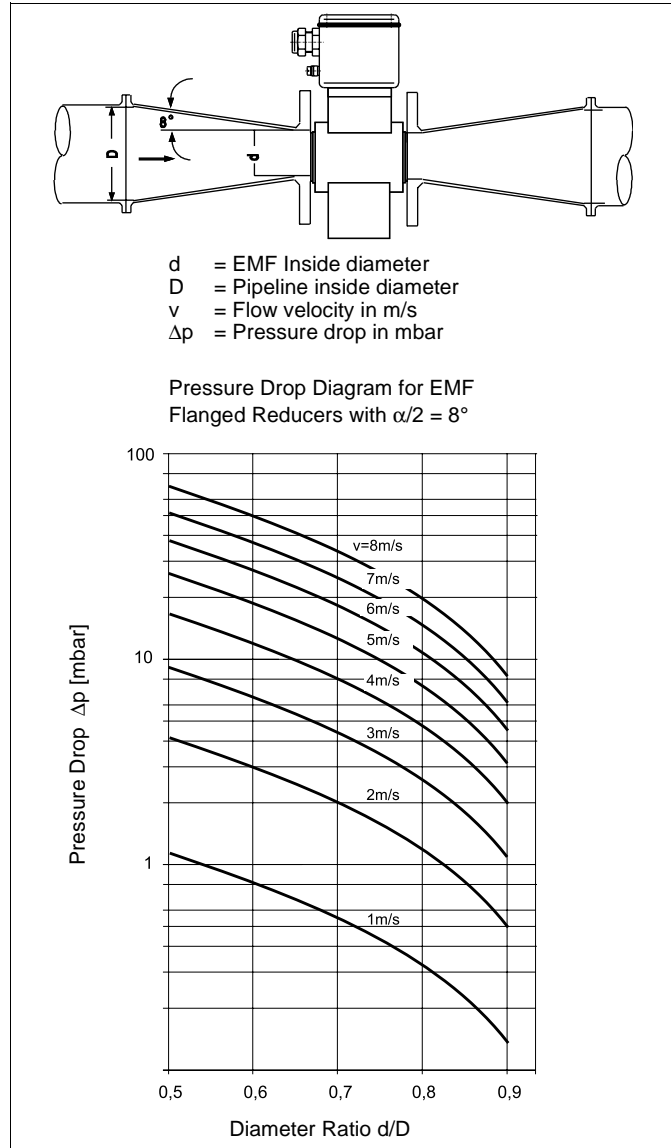

Fig. 15 Pressure Drop Nomograph
The flowmeter can readily be installed in larger size pipelines through utilization of flanged transition sections (e.g. Flanged Reducers per DIN 28545). The pressure drop resulting from the reduction can be determined from Diagram Fig. 15 using the following procedure:
3. The pressure drop can be read on the -Y- axis at the intersection of the flow velocity value and the "Diameter Ratio d/D " value on -X- axis in Fig. 15.